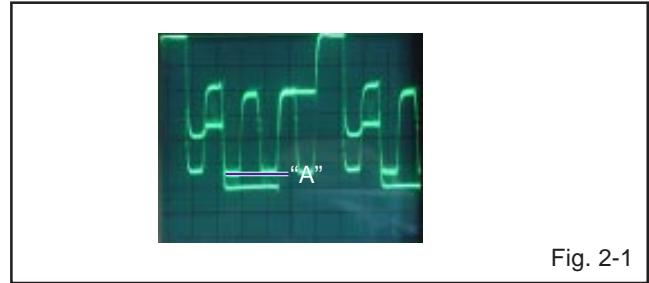

Fig. 2-1
5. Press the CH. UP/DOWN button on the remote control until the section A becomes as straight line. **(Refer to Fig. 2-1)**